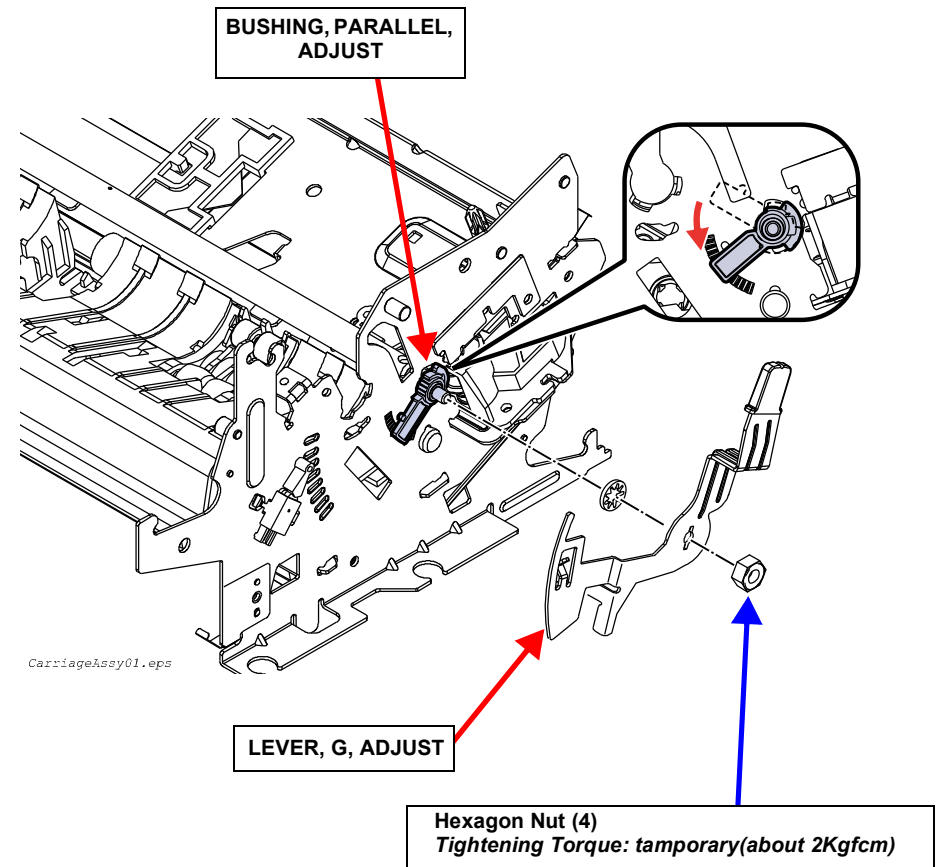

Figure 4-26. Carriage Assembly Removal 1
5. Remove the hexagon nut (M4) and the washer securing the LEVER,G,ADJUST to the SHAFT,CR,GUIDE, and remove the lever. (See Figure 4-26)
3. Remove the hexagon nut and the washer securing the LEVER,G,ADJUST to the SHAFT,CR,GUIDE, and remove the lever. (See Figure 4-26)
4. Remove the BUSHING,PARALLEL,ADJUST to turn the SHAFT,CR,GUIDE. (See Figure 4-26)